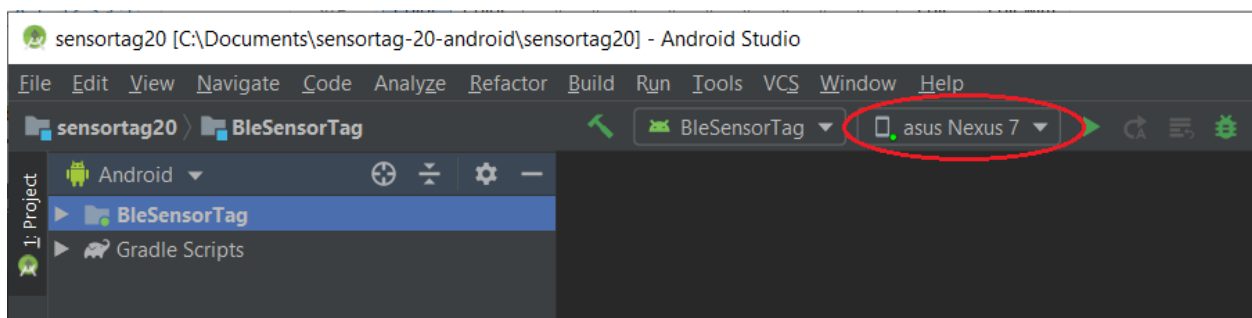

Figure 54, Allow USB Debugging on Android Device.
- g. Android should now detect your device (Figure 54).